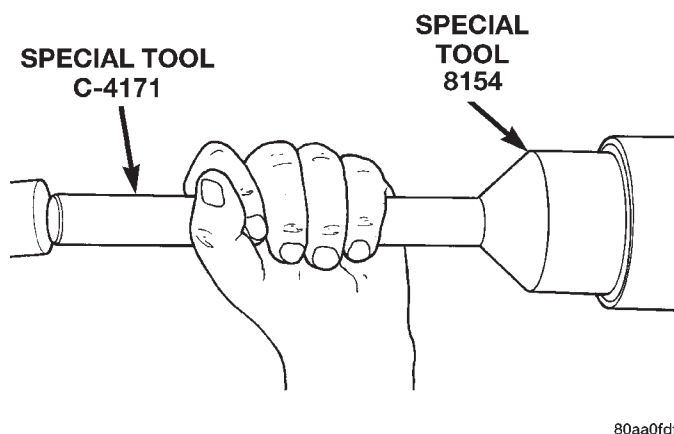

Fig. 11 Install Extension Housing Seal
- (4) Using Installer 8154, install seal in extension housing (Fig. 11).
- (5) Install propeller shaft.